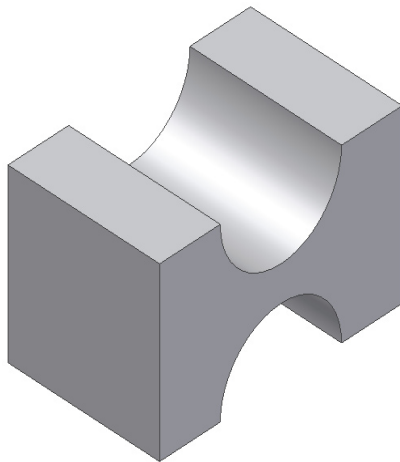
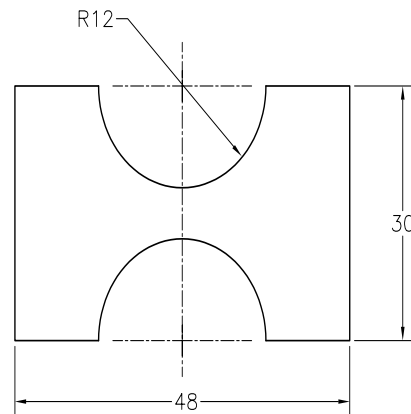

Figure 2-64 Model for Tutorial 3
Figure 2-65 Sketch for Tutorial 3
In this tutorial, you will draw the sketch for the model shown in Figure 2-64. The sketch of the model is shown in Figure 2-65. Do not dimension the sketch as the dimensions are given only for reference. **(Expected time: 30 min)**
- b. Draw the sketch by using the **Arc** and **Line** tools, refer to Figure 2-65.